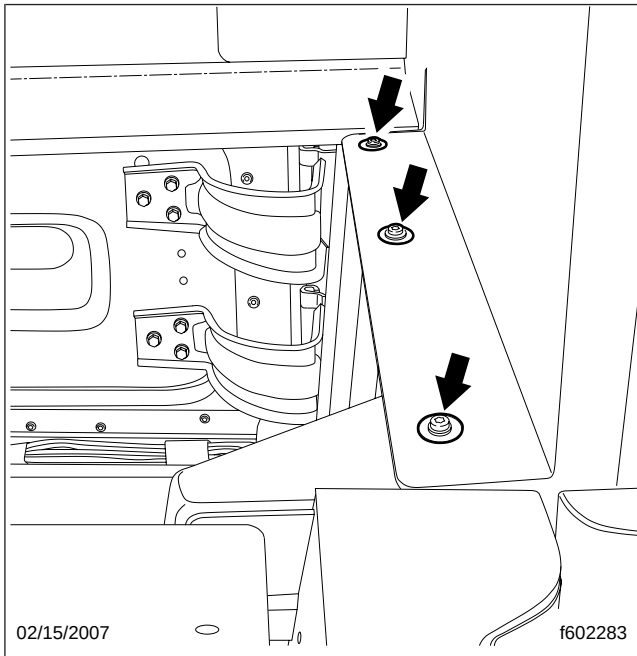
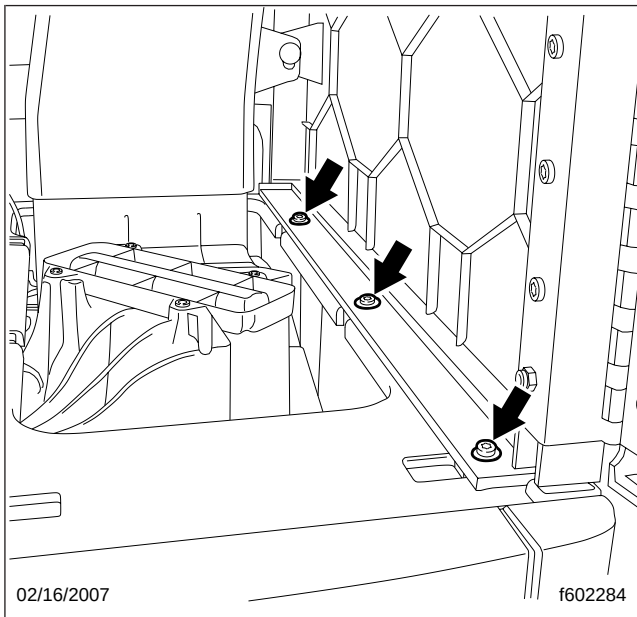

Fig. 7, Cabinet-to-Auxiliary HVAC Housing Fasteners, Aft Side
Fig. 8, Upper Cabinet-to-Auxiliary HVAC Housing Fasteners, Inside Cabinet
To remove the upper cabinet from the auxiliary HVAC housing, remove the three screws from inside the upper cabinet, and the three screws aft, outside the cabinet; see Fig. 7 and Fig. 8.
2. Install the upper cabinet on top of the lower cabinet or auxiliary HVAC housing, as applicable. To attach the upper cabinet to the lower cabinet, install the six screws and washers inside the upper cabinet. To install the upper cabinet to the auxiliary HVAC housing, install the three screws inside the upper cabinet, and the three screws aft, outside the cabinet; see Fig. 7 and Fig. 8.